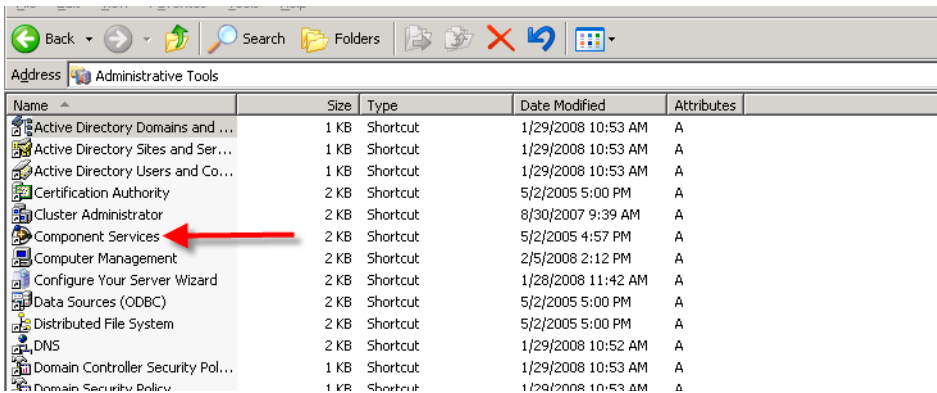

Figure 2-26 Administrative Tools
2. Select **Administrative Tools** and then **Component Services**, as shown in figure 2-26.